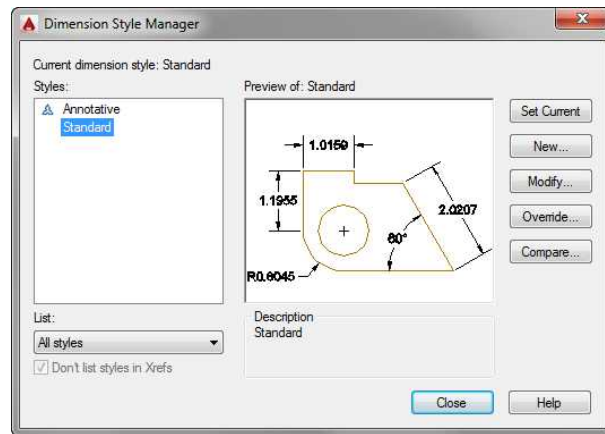

FIGURE 12.3: The Dimension Style Manager
2. Click the Dimension Style button, the small arrow at the bottom right of the Dimensions panel on the Annotate tab, to open the Dimension Style Manager (see Figure 12.3).